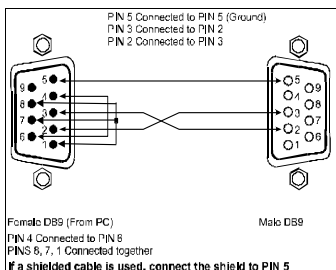

Figure 2: Connecting a PC without using a Null-modem Adapter
- Connect the RS-232 DB9 port on your PC to the RS-232 DB9 rear panel port on the **FC-4002** unit, as Figure 2 illustrates